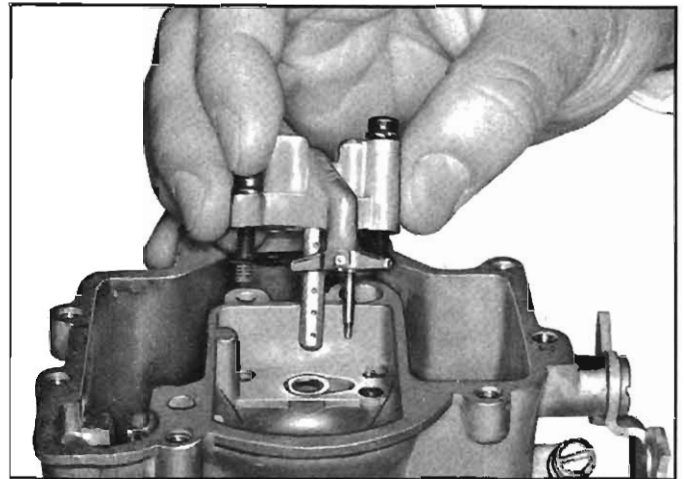

Fig. 18—Removing Venturi Cluster
10. Remove the two screws and lockwashers attaching venturi cluster to the bowl assembly and lift out the cluster, gasket and main well insert, (fig. 18).